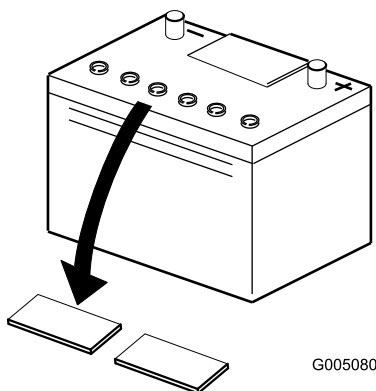

Figure 5
2. Clean the top of the battery and remove the vent caps (Figure 5).